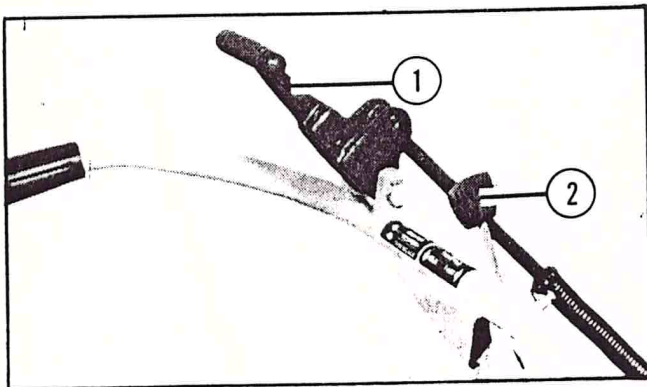

FIGURE 2
14. Attach throttle control to handle using two (2) #10-24 x 1/2" screws and lockwashers. Figure 2.
15. Attach throttle control cable to handle using clip (loose on cable), one (1) #10-24 x 1/2" screw and lockwasher.
Clutch Control Lever Engages or releases drive belt and applies brake action to drive belt when pulled FIRMLY to rear. Figure 2.
Throttle Control Speed up or slow down engine. Figure 2.